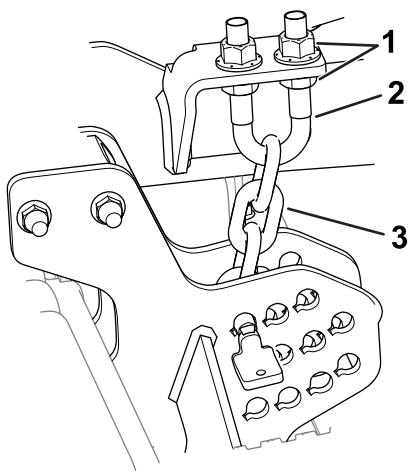

Figure 7
6. Loosen the lower jam nuts on the height-of-cut chain U-bolt (Figure 7).
7. Adjust the nuts (Figure 7) to raise or lower the rear of the cutting unit so that the tips of the rear blades are 6 to 10 mm (1/4 to 3/8 inch) higher than the front tips.